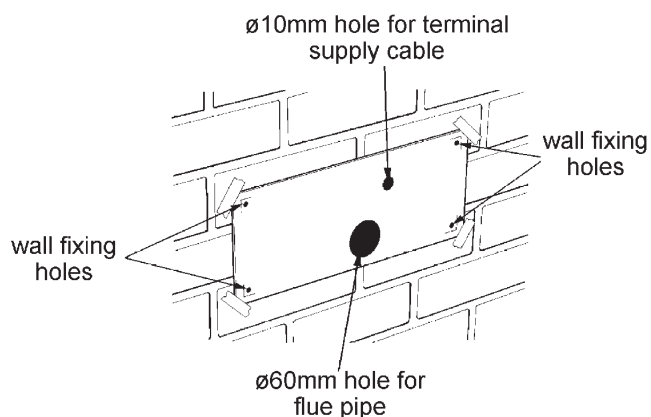

FIG. 10
2. Cut $\varnothing 60$ mm hole in the wall for the flue pipe. (See Fig. 10).
3. Drill 4 wall fixing holes through template (1 in each corner). (See Fig. 10).